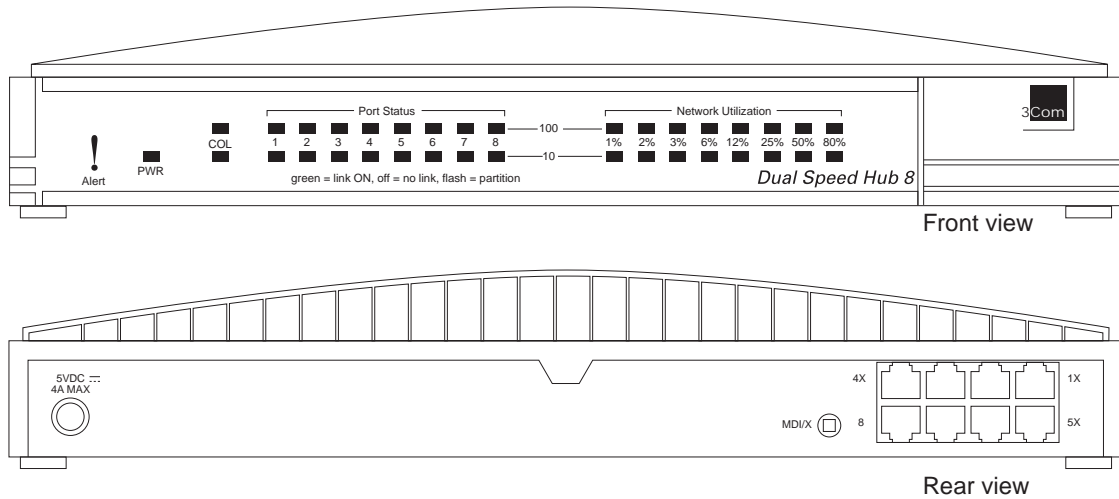

Figure 5. Ethernet hub
- Ethernet hub (see figure 5 on page 16). The 8-port Ethernet hub routes data at rates up to 100 Mbytes per second between the system workstation and the VCUs.